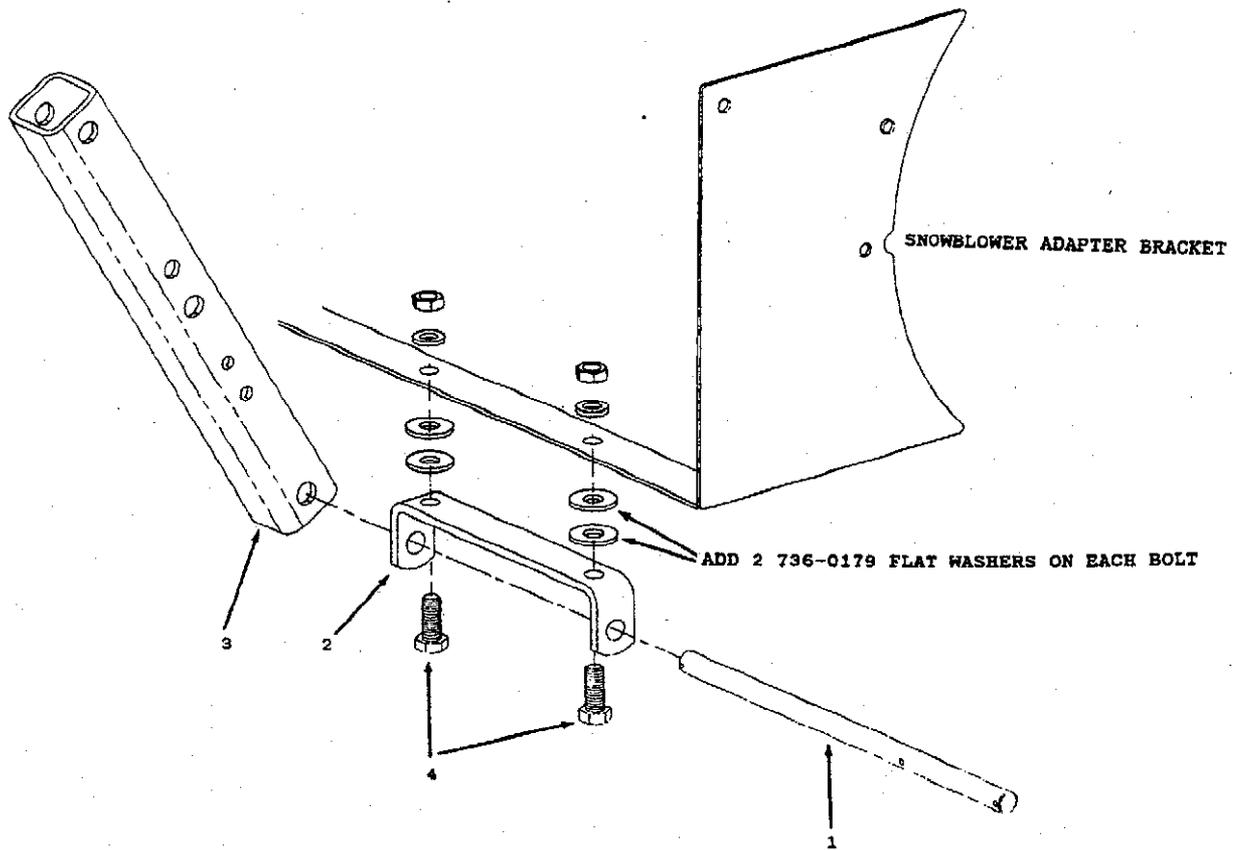

fig.1
- 5) Remove the rod (item 1 fig.1) from the square tubing (item 3 fig.1) that attaches to the lower portion of the snowblower housing.
- 6) Remove the pivot bracket (item 2 fig.1) from the lower part of the snowblower housing by removing the two 1/2 diameter retaining bolts and nuts. (item 4 fig.1)